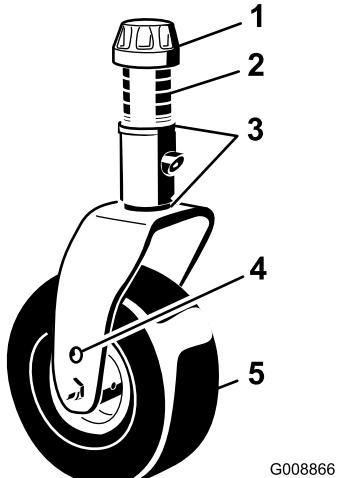

Figure 27
3. Adjust the shims (3 mm or 1/8 inch) on the front caster fork(s) to match the height-of-cut decal (Figure 27); refer to Adjusting the Mower-Deck Pitch \(page 62\).